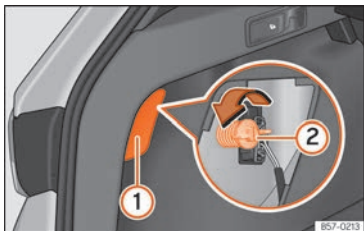

Fig. 61 Luggage compartment: access to the bolt securing the tail light unit.
- Remove the lid, levering it with the flat side of a screwdriver into the recess »» **Fig. 61** ①.